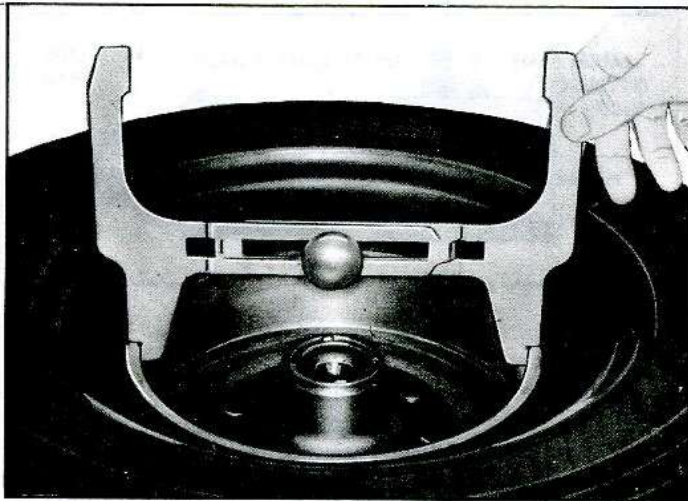

Fig. 13—Using Drum-to-Brake Shoe Clearance Gauge
- a. Use special Tool J-21177, Drum-to-Brake Shoe Clearance Gauge, to check the diameter of the drum inner surface (fig. 13).